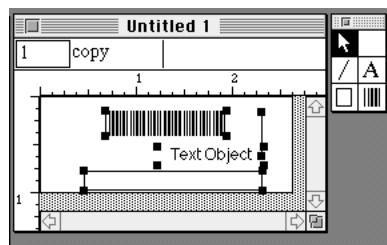

Figure 6-27 Objects Selected
3. Hold down the shift key and click on each of the objects in the work area that you want to align. When you have selected all of the objects they should each have handles as they do in Figure 6-27.